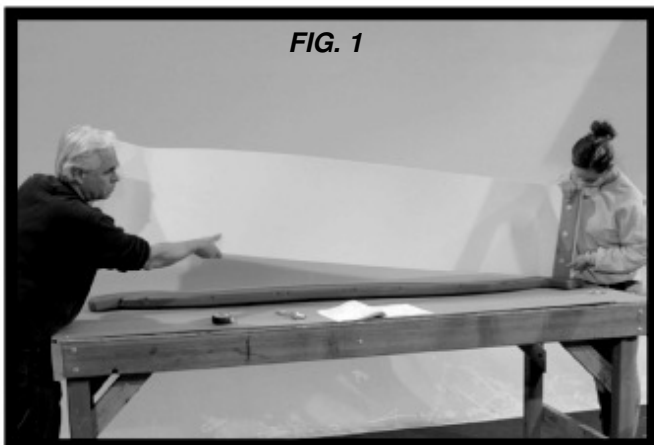

FIG. 1
- PLACE 1 SLIDE RAIL ON A FLAT SURFACE AND BEGIN INSERTING SLIDE BED AT THE BOTTOM OF THE SLIDE RAIL (FIG. 1). PUT SLIDE SUPPORT BOTTOM INTO THE SUPPORT POCKET AT THE BOTTOM OF THE RAIL AND HAVE A HELPER BEND THE SLIDE BED TOWARDS THE TOP OF THE SLIDE AND INSERT THE BED INTO THE SLIDE CAVITY. MAKE SURE SLIDE BED IS COMPLETELY DOWN IN THE SLIDE CAVITY. SECURE USING (12) 2-1/2" WOOD SCREWS AT EACH OF THE PILOT HOLE LOCATIONS AS SHOWN BELOW.